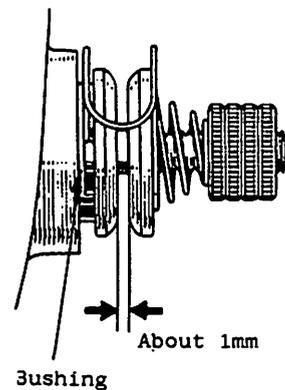

Fig. 11.13
- (1) When the tension release solenoid is actuated, the tension discs should open about 1.0mm as shown in Fig. 11.13.